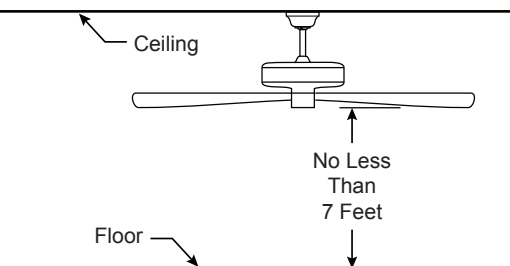
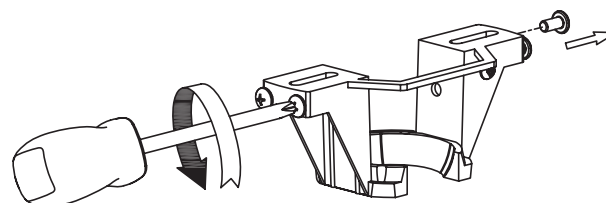

Figure 2
Figure 3
Your new ceiling fan will require a grounded electrical supply line of 120 volts AC, 60 HZ, 15 Amp Circuit. Electrical code requires use of a fan-rated outlet box to support the extra weight and motion associated with a ceiling fan. A fan-rated box will be labeled as such and typically supports up to a 70lb ceiling fan. Fan-Rated Outlet Boxes vary in ratings and design. Ensure the ratings of your ceiling fan outlet box meet the requirements for the ceiling fan being installed. Figure 1, Figure 2 and Figure 3 depicts different structural configurations that may be used for mounting the outlet box.
Deep box (Figure 2)
Deep box with brace (Figure 3)
- ☐ 2. Remove the hanger ball portion from the downrod/hanger ball assembly by loosening the set screw in the hanger ball until the ball falls freely down the downrod. Remove the pin from the downrod, then remove the hanger ball. Retain the pin and hanger ball for reinstallation in Step 7. (Figure 2)
- ☐ 3. Remove the hairpin clip and clevis pin from the bottom of the downrod. Retain the pin and clip for reinstallation in step 5. (Figure 3)
- ☐ 2. Alternating positions, remove three motor coupling screws from the motor assembly and retain the screws for Step 4. (Figure 2)
- ☐ 3. Route your fan wires through the canopy trim ring and ceiling canopy. (Figure 3)
The fan must be hung with at least 7' of clearance from floor to blades. (Figure 2)
1. Completely remove one screw from either side of the hanger bracket -- be sure it is the screw to your right when facing it -- and keep for reinstallation on page 14 or 15 (**How to Install Your Canopy Housing**). Loosen the other two screws that were not removed. (Figure 3)
- ☐ **2.** Assemble the canopy screw cover, by twisting in a clockwise direction and up to the ceiling canopy. (Figure 2)
- ☐ **3.** Push the canopy trim ring up to conceal the screws, such that the mounting tabs seat into the dimpled grooves in the ceiling canopy midway between the screws. (Figure 3)
- ☐ 2. Install the remaining two screws removed in step 1 of page 10 (**How to Hang Your Ceiling Fan**) to secure the ceiling canopy to the hanger bracket. (Figure 2)
- ☐ 3. Push the canopy trim ring up to conceal the screws, such that the mounting tabs seat into the dimpled grooves in the ceiling canopy midway between the screws. (Figure 3)
2. Attach assembled blade holders to the motor hub using the provided screws with lock washers in the hardware bag. Make sure the screws securing the blade holders to the motor hub are tight and that the blade holders are properly seated. (Figure 2)
2. Securely attach the 9-pin switch cup connector to the wiring harness socket within the adapter assembly. (Figure 2)
3. Assemble the switch cup assembly onto the housing adapter with previously removed screws. (Figure 3)